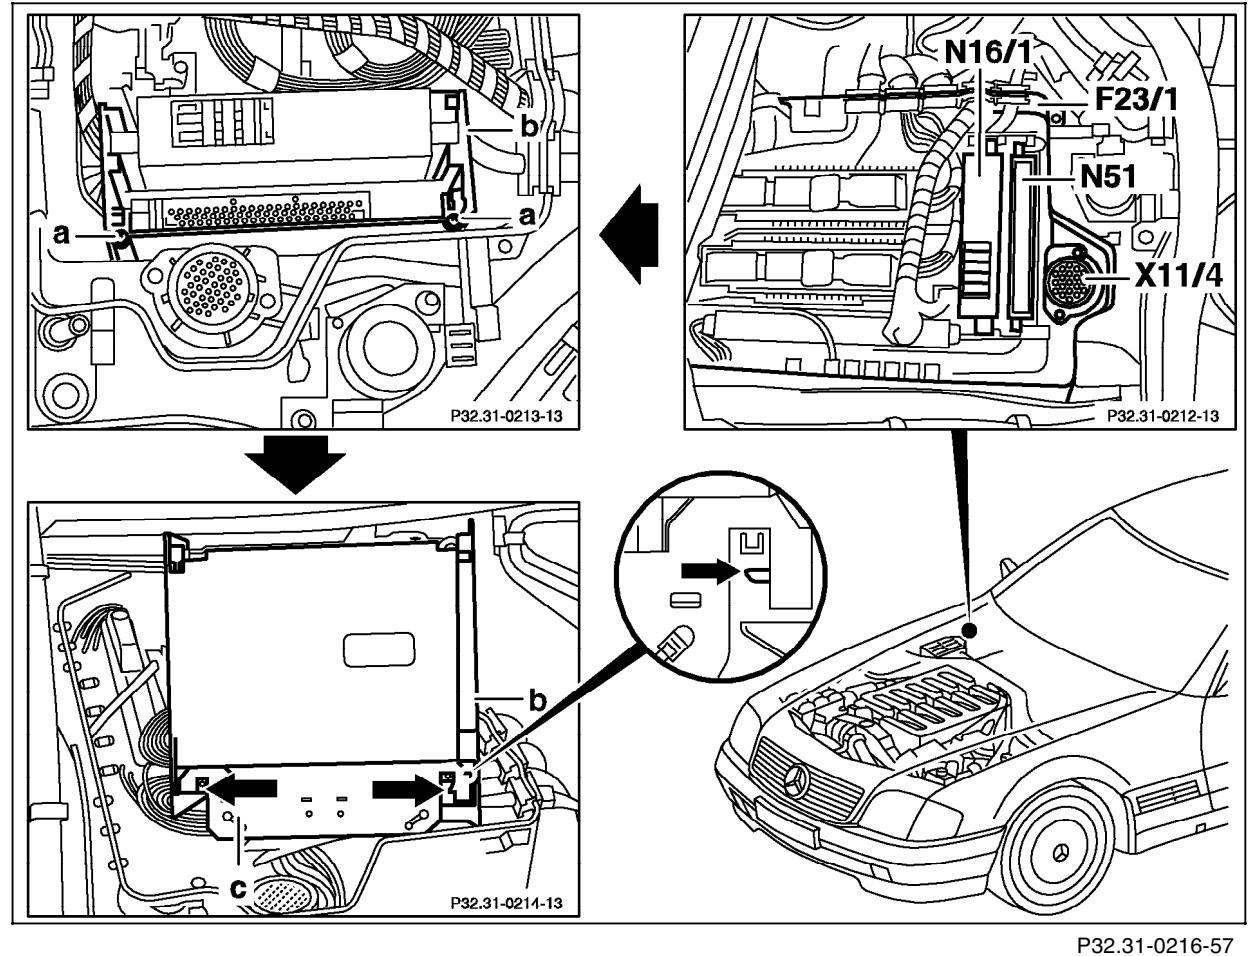

Figure 1
2. Remove ADS control module (N51) (Figure 1).